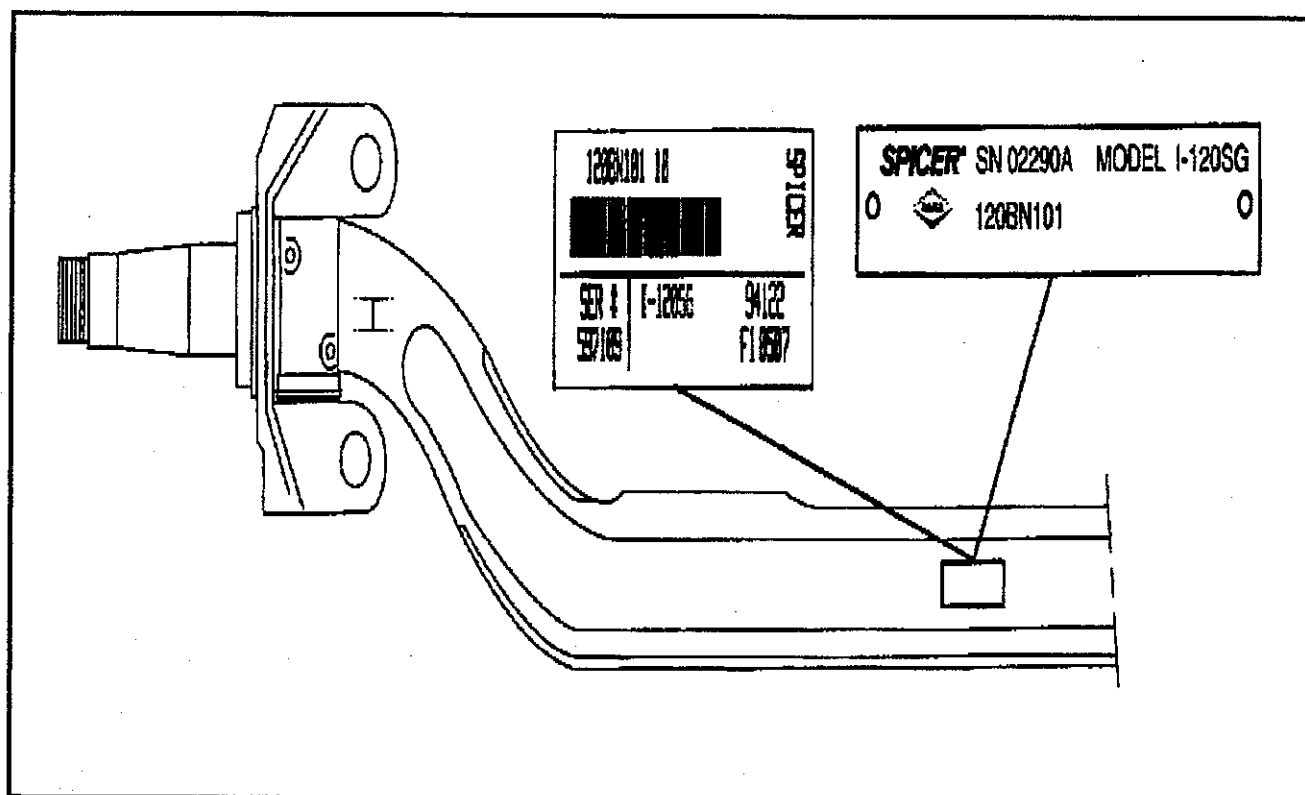

Figure 1—Axle Identification
- See Figure 1—Axle Identification